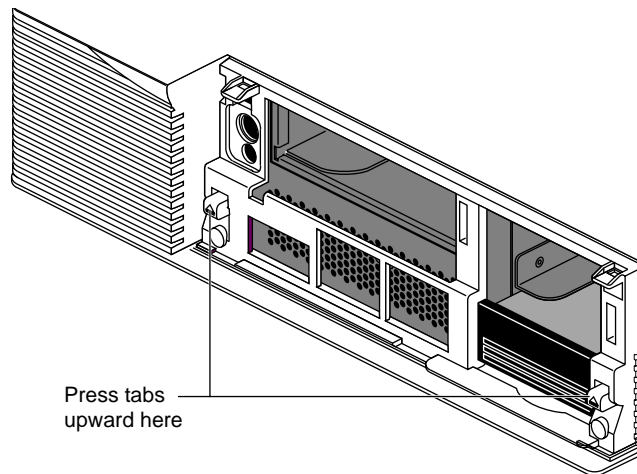

Figure 1-5 Releasing the Top Cover
- Press up on the tabs on each side of the drive openings as shown in Figure 1-5.